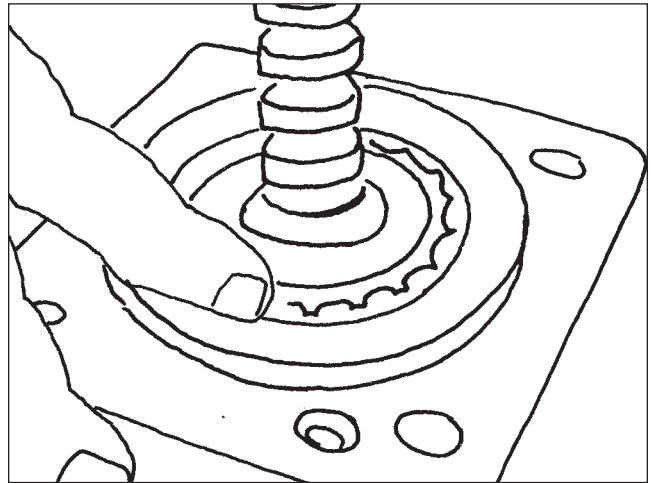

Figure 78
23. Place a new locking star nut over the retaining nut. Use Tool #3563982 to hold the shaft retaining nut in position (**Figure 78**).